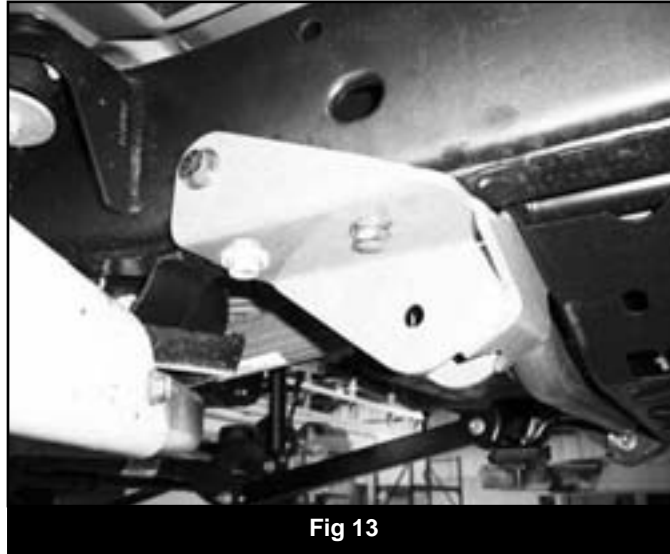

Fig 13
28. With all of the LCA mount hardware installed, torque fasteners to 65 ft-lbs. The OE skid plate bolt should be the last bolt to be tightened (Fig 13).